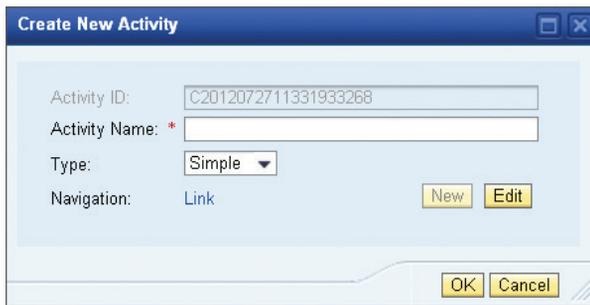

Figure 7.16 Creating a New Activity
4. In the area in which you define the activity, choose **NEW**. A new window opens in which you must enter the name of the activity (see Figure 7.16).